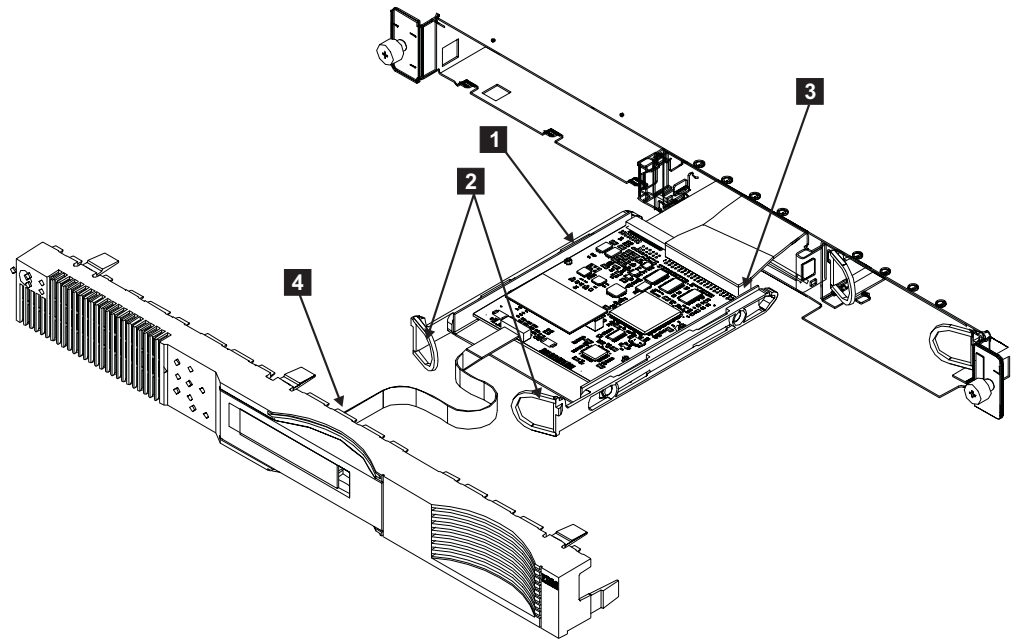

Figure 140. The SAN Volume Controller 2145-4F2 service controller
5. Pull the two handles (**2** in Figure 140) to release the latches.